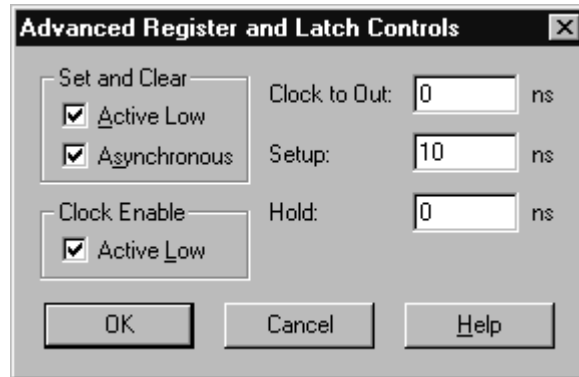

Figure 3.3: Advanced Register and Latch Controls
- The **Advanced Register** button opens the *Advanced Register and Latch Controls* dialog (see Figure 3.3) that determines how this individual register is generated. The global defaults can be defined using the **Options > Simulation Preferences** menu. This dialog controls the following options: